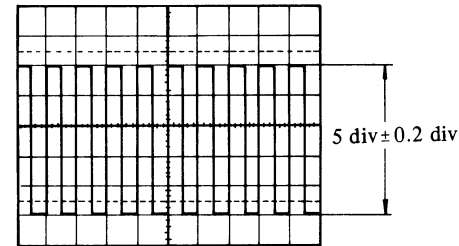

Fig. 6-4
- (2) Connect a 10:1 probe to the CH1 input connector. Connect the probe tip to the CALIBRATOR terminal on the instrument front panel.
- (3) Adjust INTENSITY for the desired display brightness and adjust FOCUS control for best defined display.
- (4) Adjust TRIGGER LEVEL control for a stable display of the CALIBRATOR signal.
- (5) Use the vertical POSITION control to vertically center the display of the CALIBLATOR signal.
- (6) Check for a vertical display amplitude of 5 divisions ± 0.2 divisions. (See Fig. 6-4).